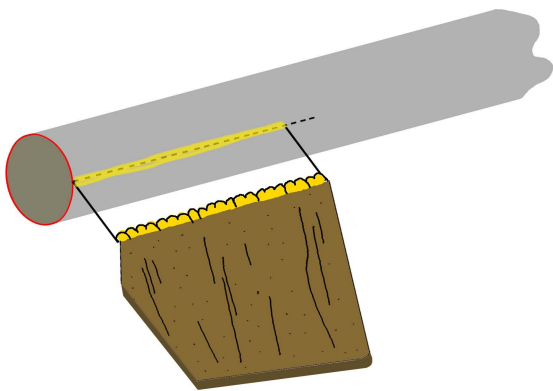

Figure 7
- **Step 10** Attach the fins to the body tube, with the bottom of the root edge touching the bottom of the tube, as shown in Figure 7. Use cardboard cutouts of the alignment guide to ensure the fins are properly aligned to the tube. Attach the launch lug in the same manner on the lug alignment line. Allow these glue joints to dry completely.